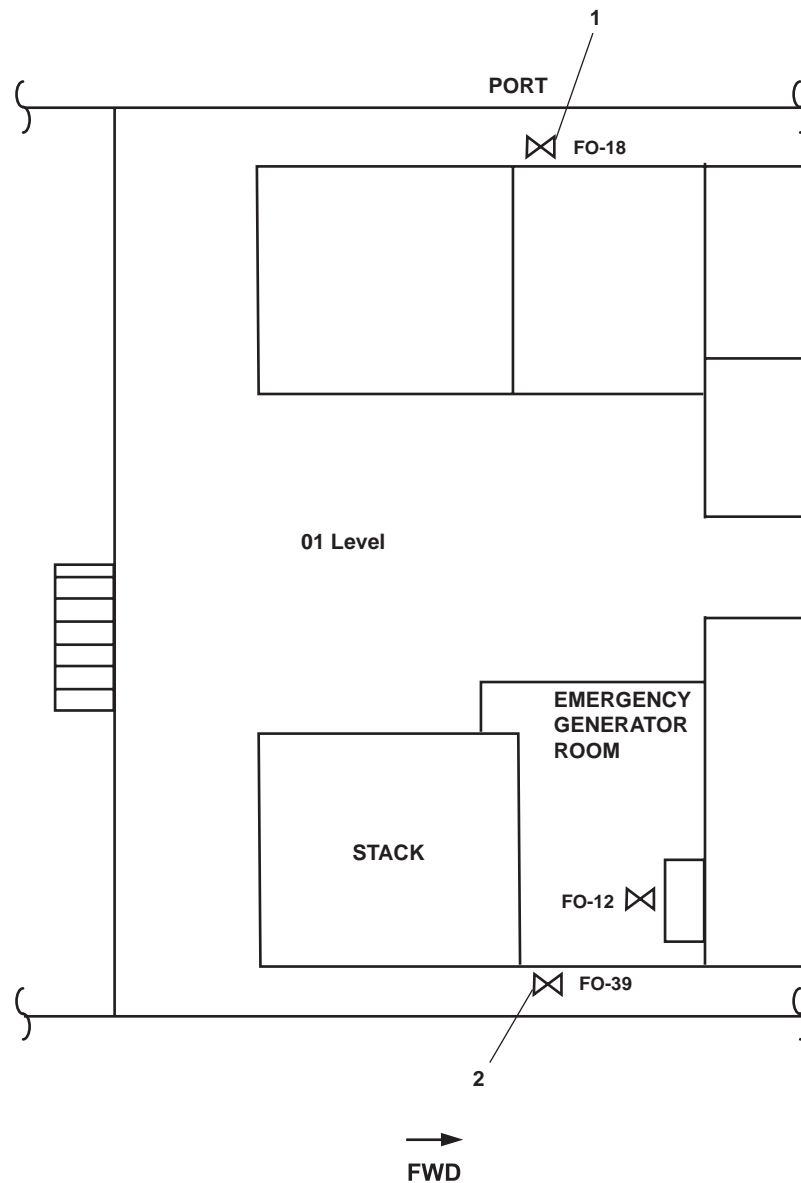

Figure 12. Fuel Oil Supply Line Connection Locations
- a. If the fuel supply line is connected to the port fuel oil deck connection, OPEN FO-18, F.O. FILL CONN PORT (figure 12, item 1).
- b. If fuel supply line is connected to the starboard fuel oil deck connection, OPEN FO-39, F.O. FILL CONN. STBD (figure 12, item 2).
- (1) FO-18, F.O. FILL CONN PORT (figure 12, item 1) for port
- (2) FO-39, F.O. FILL CONN. STBD (figure 12, item 2) for starboard